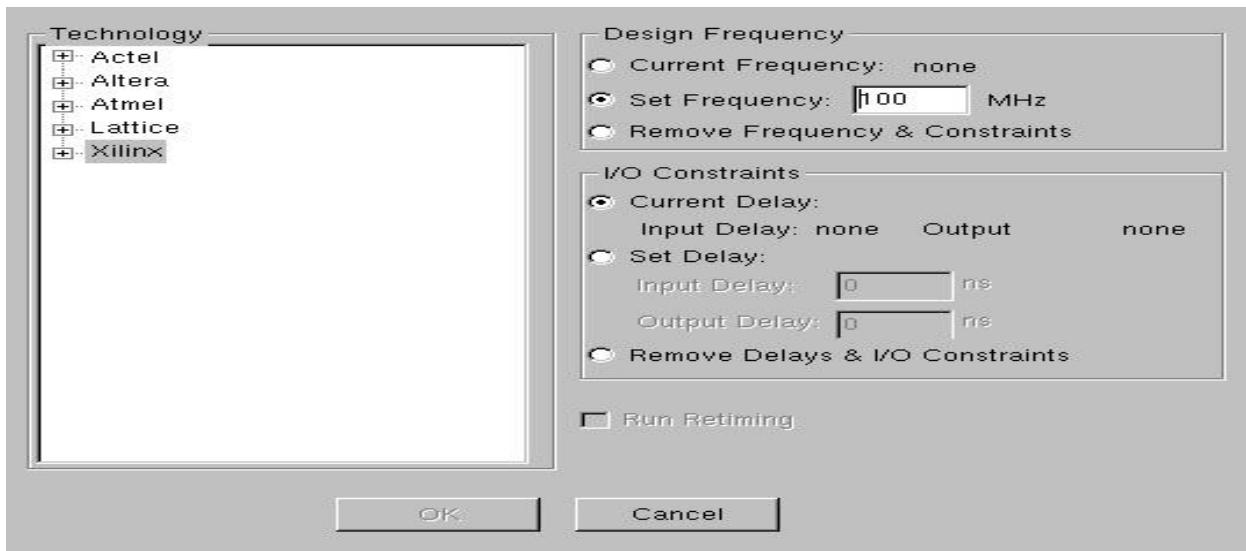

Figure 14: Project Settings Form.
(7) The next step is to specify the FPGA device you wish to use. This is performed by selecting the **Setup Design** icon. Clicking this icon will open the **Project Settings form**. In this form select Xilinx as the technology as shown in Figure 14.